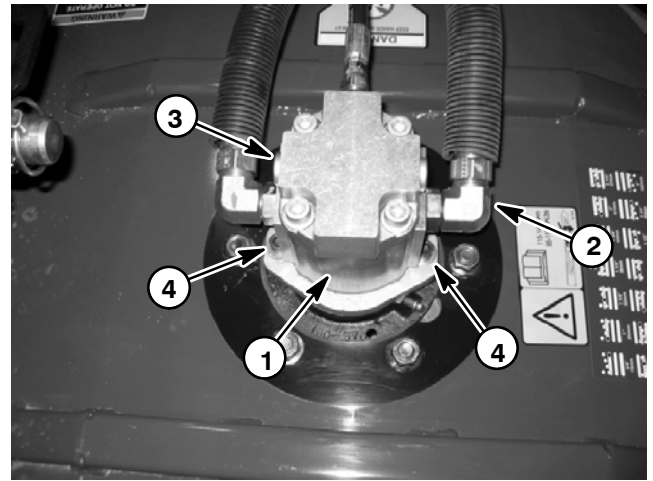

Figure 39
NOTE: Note position of hydraulic hoses when removing hoses from the cutting deck motors. Proper positioning is critical when reconnecting hydraulic hoses. The inlet to the motor is opposite from the relief valve (Fig. 39).
4. Remove two (2) socket head screws and flat washers that secure hydraulic motor to the cutting unit (Fig. 39). Remove hydraulic motor from deck. Locate and retrieve o-ring from top of spindle housing.